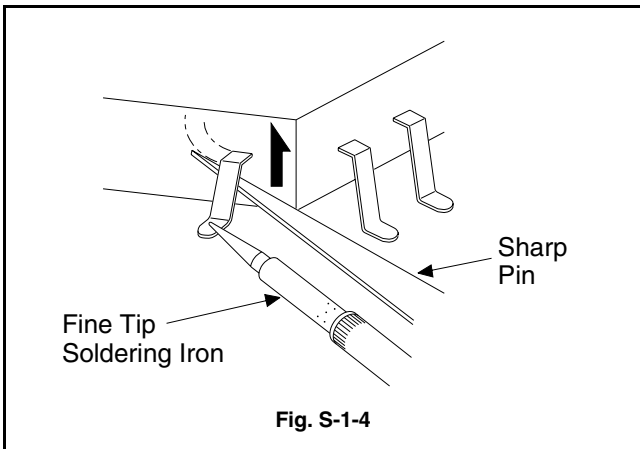

Fig. S-1-4
- b. Lift each lead of the Flat Pack - IC upward one by one, using a sharp pin or wire to which solder will not adhere (iron wire). When heating the pins, use a fine tip soldering iron or a hot air Desoldering Machine. (Fig. S-1-4)